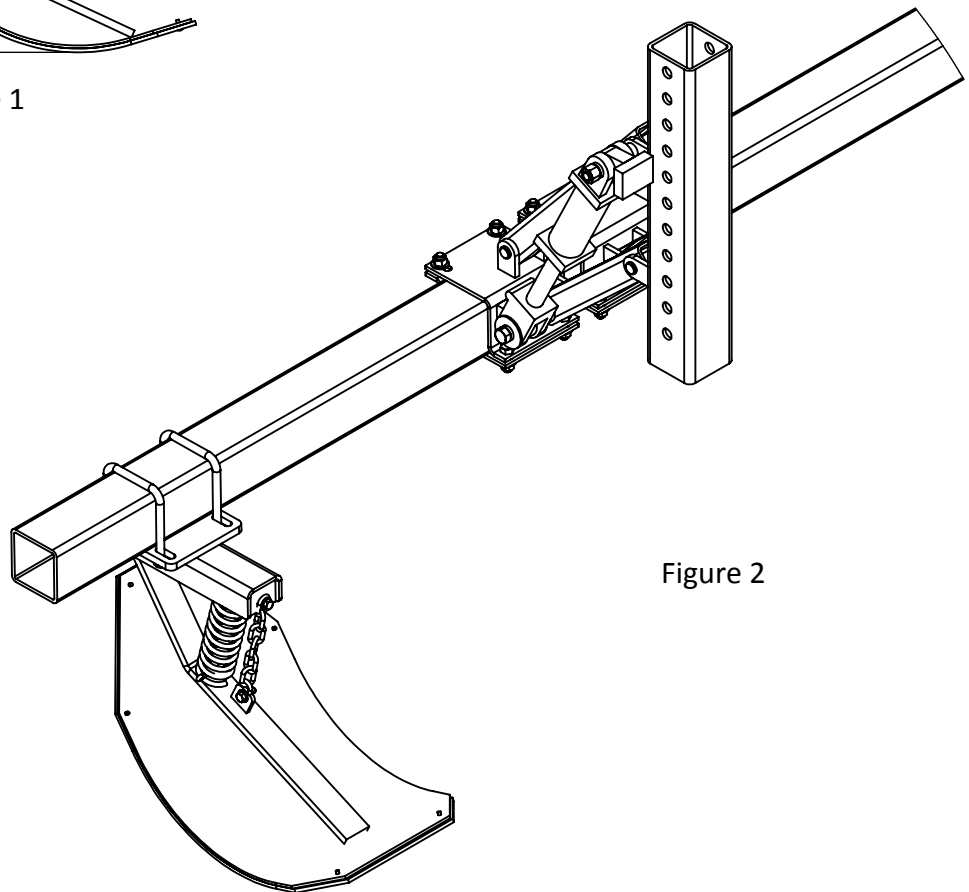

Figure 2
-Mount Stalk Stomper Assy* to the 4" x 4" x 1/4" (sidewall) Toolbar* (purchased or customer supplied) as shown below in Figure 2. Position Stalk Stomper Assy* centered with tractor tires/tracks.